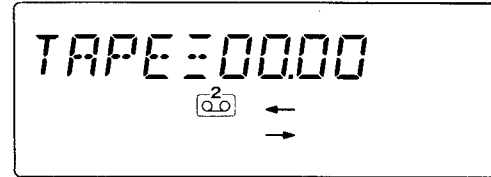

Fig. 2
5. If the tape is automatically stopped at "00.00" position on the counter (refer to Fig. 2) and self check mode is not cancelled, the tape edit system circuit is proved to be normal.